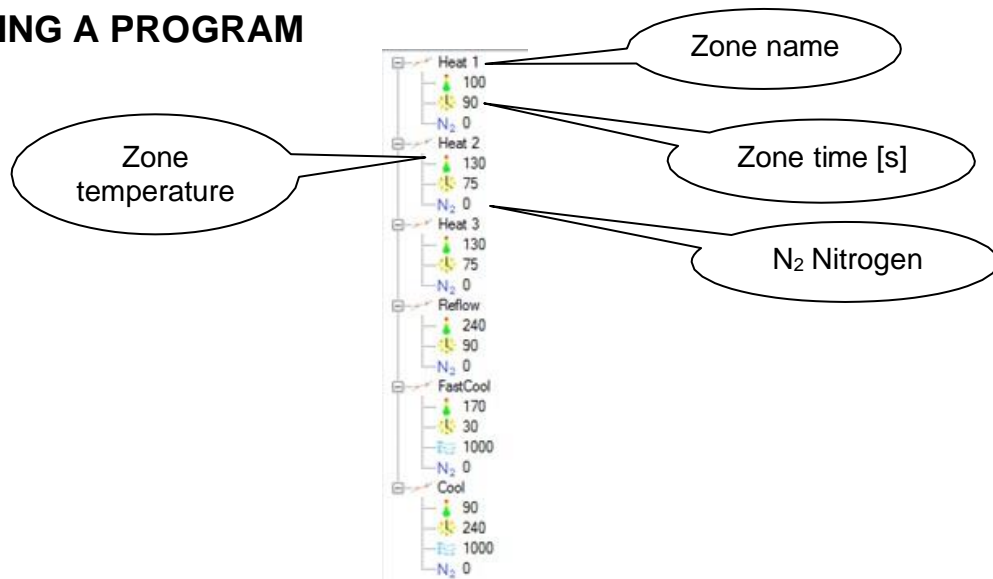

Figure 11
**The Operator has two ways to edit the Program: graphical (using the mouse and modifying the graph) and by modifying temperatures and zone times in the Program Zones List via keyboard entry (Fig. 11).**